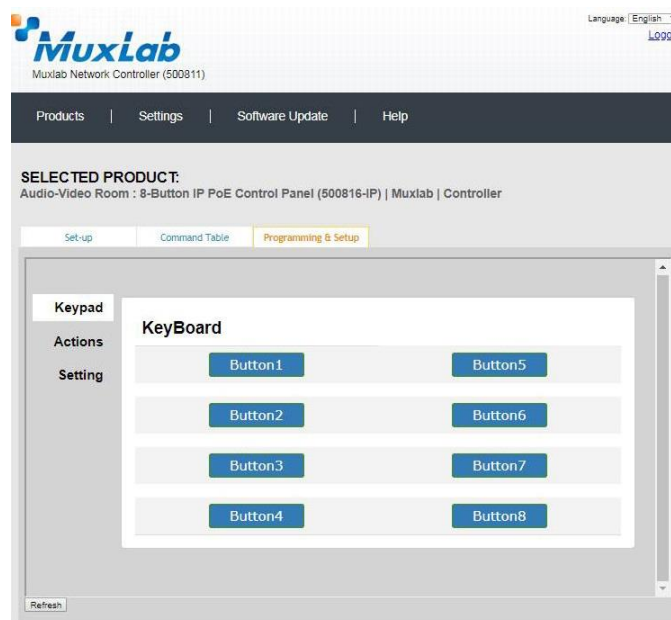

Figure 347: Programming & Setup Tab – Keyboard
- Keyboard: Allows the user to simulate a button press on the 500816-IP from a computer screen (Figure 347). This can be used to test a button that has just been programmed in “Actions”.